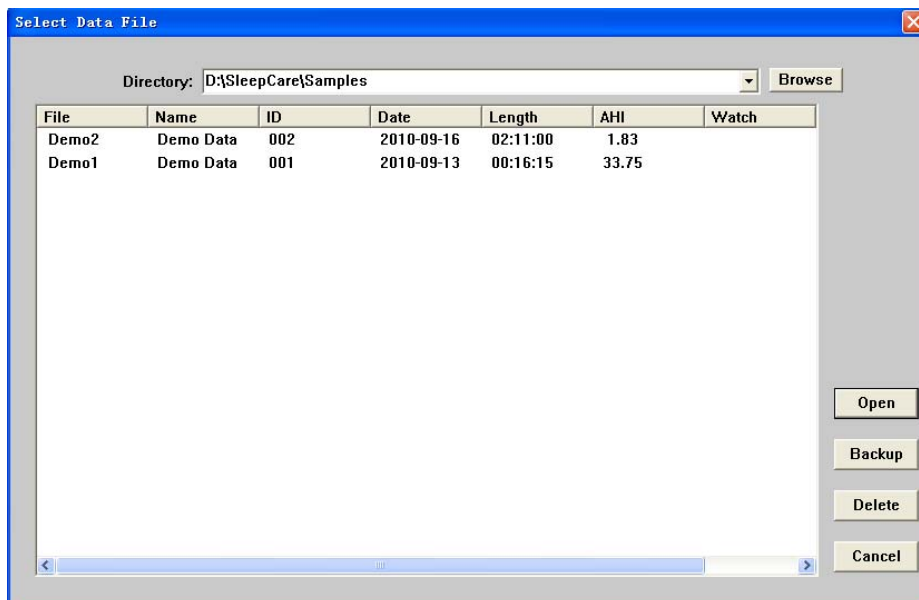

Figure 2-4 Select Data File Dialog Box
a) In the main window of SleepCare™ system, choose "Open" in "File" of menu bar, the system will enter the sleep data management interface. The screen shows the saved data and its related information in the hard disk (Figure 2-4). The desired data can be easily found out by different orders in this page.